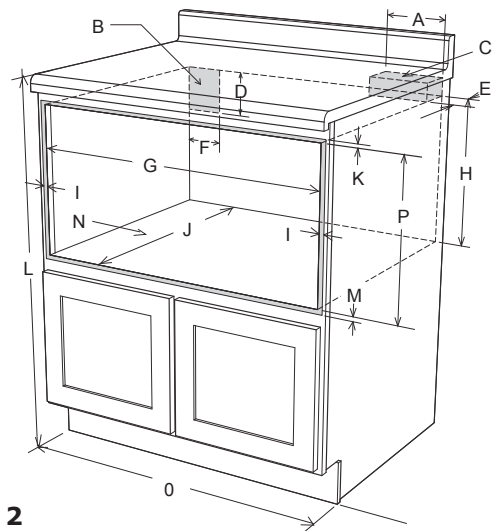
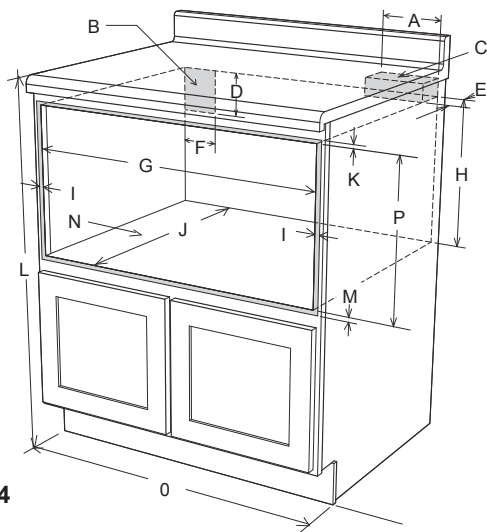

Figure 2
Figure 4
For SAFETY CONSIDERATIONS do not install the drawer in any combustible cabinetry, which is not in accord with the stated clearances and dimensions on pages 3, 4 and 5. See **Figure 2** (for 24") or **Figures 4 and 5** (for 30").
- Dimensions that are shown in **Figures 2, 4** and **5** must be used. Given dimensions provide minimum clearance. Locate the electrical outlet in the shaded area in the upper left-hand corner of the cutout. See **Figure 8**.
To reduce the risk of tipping the drawer, the anti-tip block must be properly installed 14 ¹³/₁₆" above the floor cutout. The 6" anti-tip block must be provided by the installer. See **Figures 2 and 6** for (24") or **Figures 4, 5, and 6** (for 30"). The anti-tip block prevents serious injury that might result from spilled hot liquids.